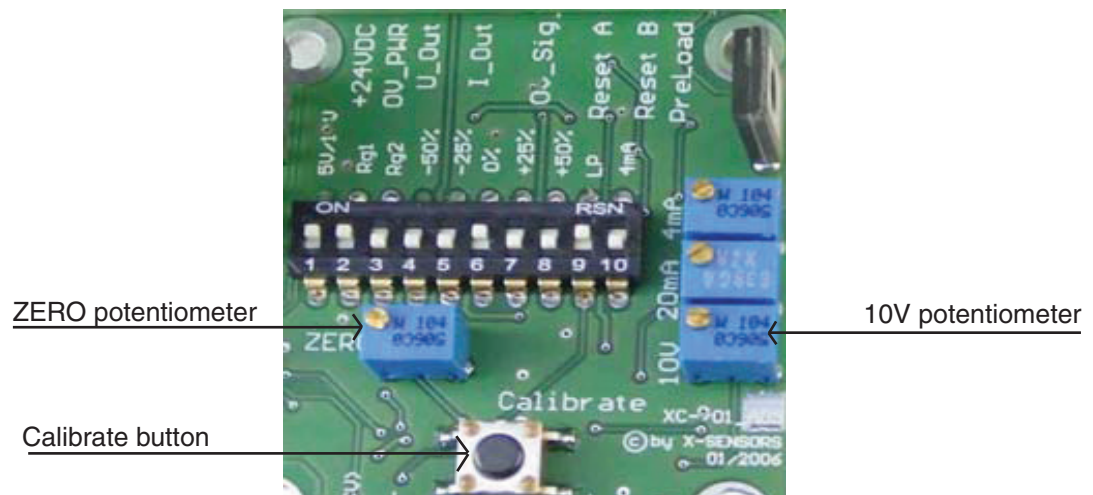

Figure 6 DIP-switches and Zero Potentiometer
3. Adjust the output to 0.00 V with the ZERO potentiometer (*see Figure 6*)
4. Press the **CALIBRATE** button (*see Figure 6*)
5. Adjust the voltage-output with the 10V potentiometer (*see Figure 6*), according to the following formula: